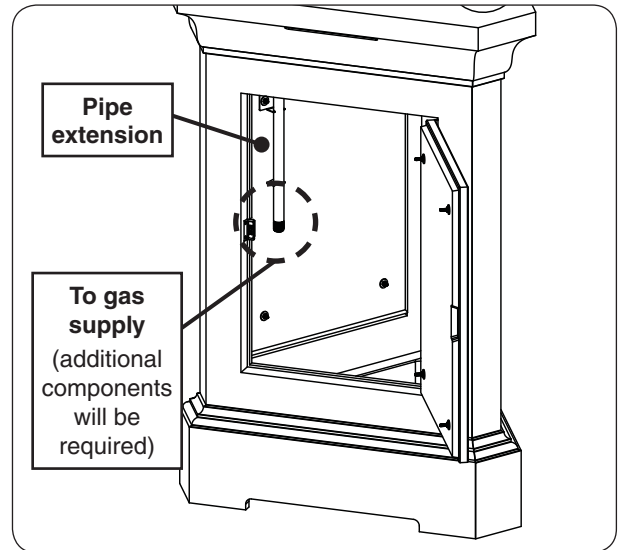

Fig. 29-1 Pipe extension detail
Your unit is equipped with a pipe extension that is to be routed to a gas supply appropriate for your setup. See Fig. 29-1. Additional gas components will be required. Consult a qualified professional service technician, and your local dealer. Follow the guidelines below.
2. Install the previously removed adapter to the end of the pipe extension (that is mounted to the interior wall of the pedestal) using a joint compound resistant to all gasses. Tighten securely. Reference Fig. 29-1.